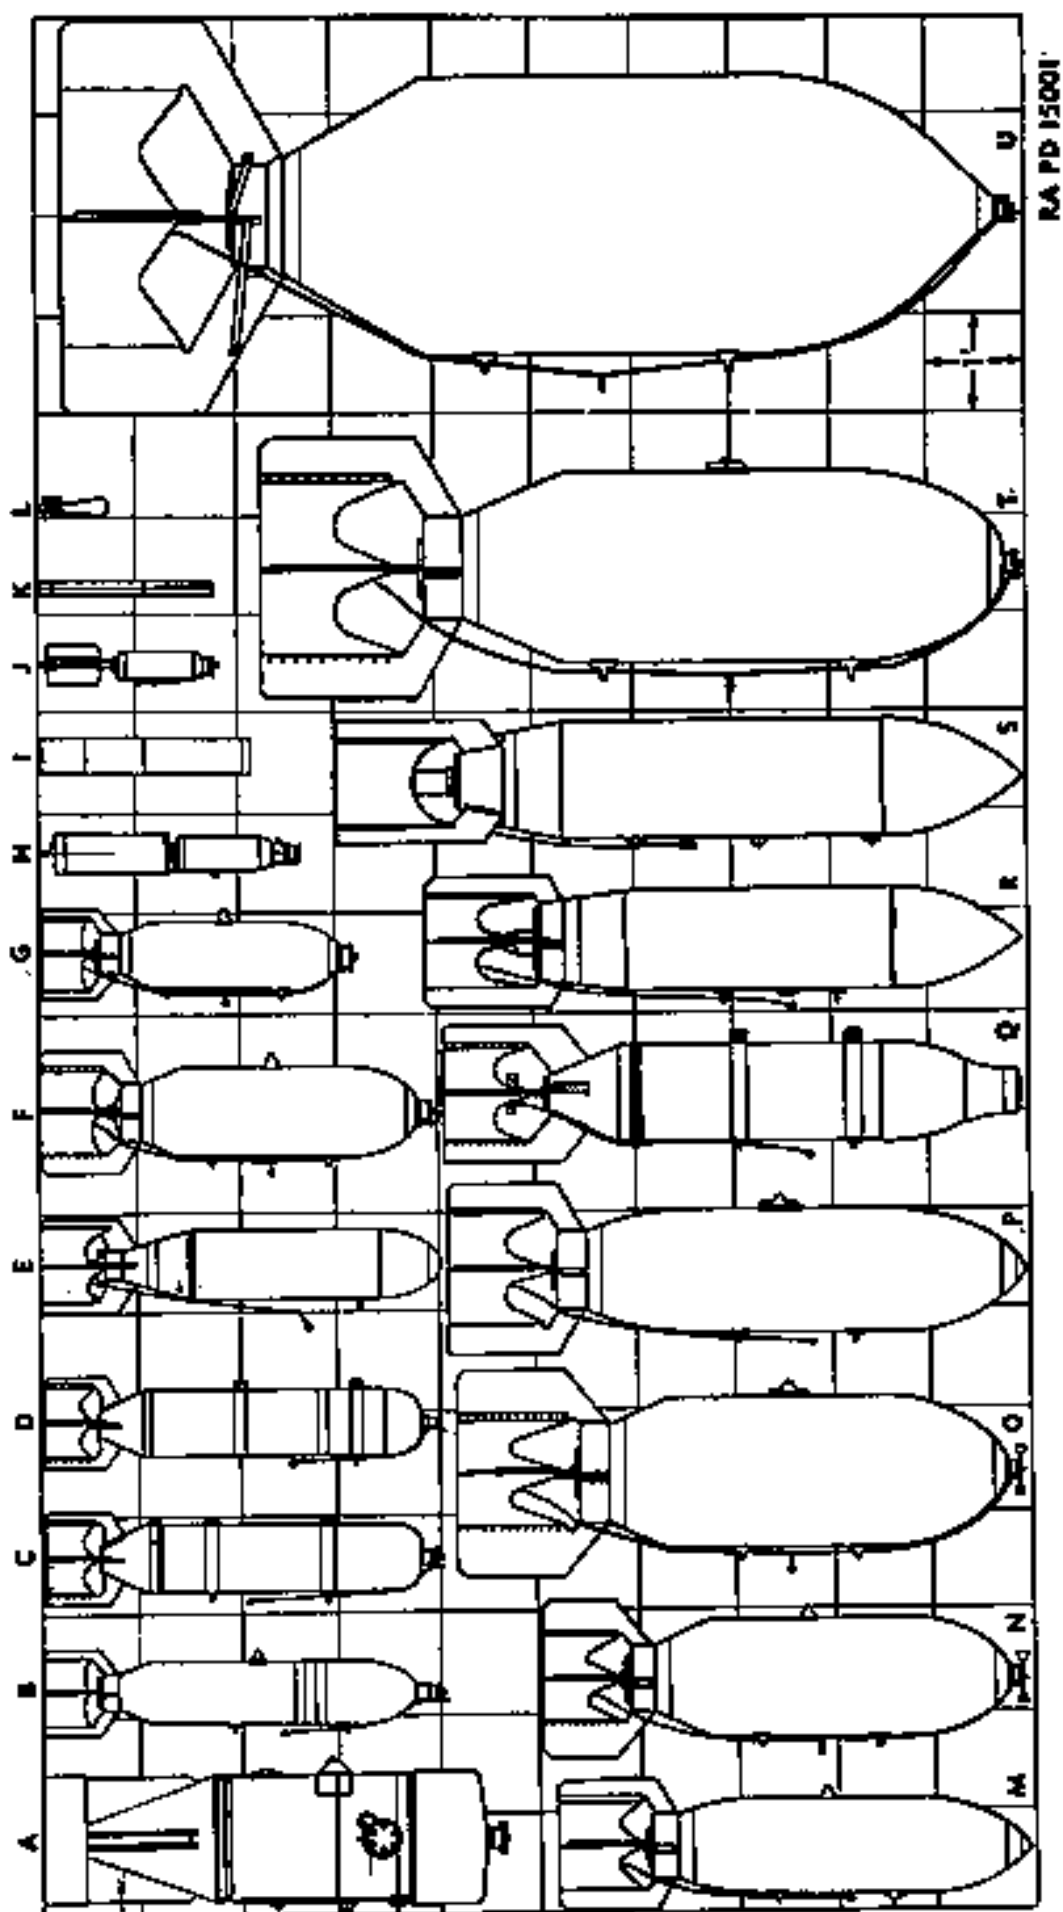

Figure 31. Aircraft bombs, all types.
b. A bomb is defined as an item of ammunition dropped from aircraft, which consists of a case filled with explosive or chemical agents, and a means of exploding or scattering the charge at the target. Current models of bombs, grouped for comparison, are illustrated in figure 31. Aircraft torpedoes, submarine mines planted by aircraft, rockets, pyrotechnics, and mortar bombs, although they are somewhat similar in nature, are not classified as bombs. Such items are described in other technical publications.